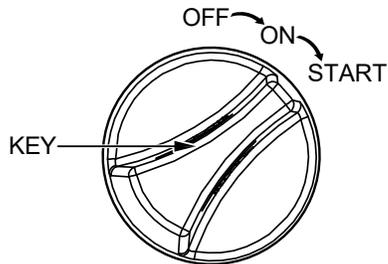

Figure 22. Ignition Key Switch (Start)
- Insert the **ignition key** into the **ignition switch** (Figure 22). While keeping your foot **off** the foot switch, turn the ignition key **clockwise** to the **START** position. Once the engine starts, release the ignition key.